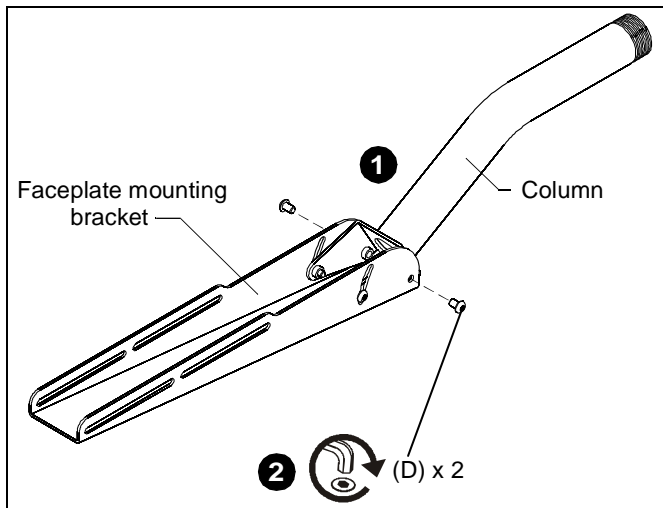

Figure 1
1. Fold column out until column mounting bracket rests against faceplate mounting bracket. (See Figure 1)
2. Secure column against faceplate mounting bracket using 3/16" hex wrench (C) and two 5/16-18 x 1/2" button head cap screws (D). (See Figure 1)